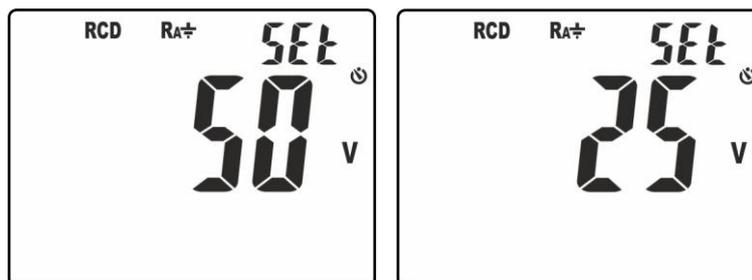

Fig. 5: Setting the contact voltage limit
2. Press and hold key **▼/⚡** switch on the instrument by turning the rotary switch. The screen in Fig. 5 – left side appears on the display with a flashing “Set” symbol.